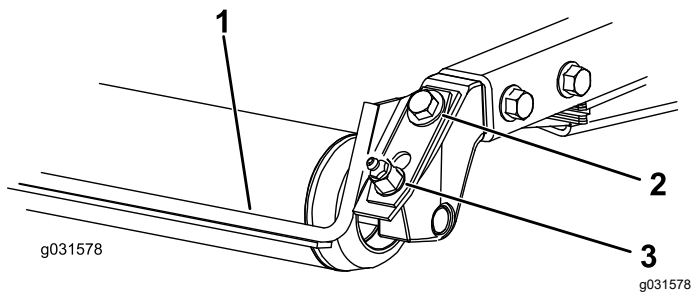

Figure 9
1. Loosen the grease fitting and the mounting screw (Figure 9).